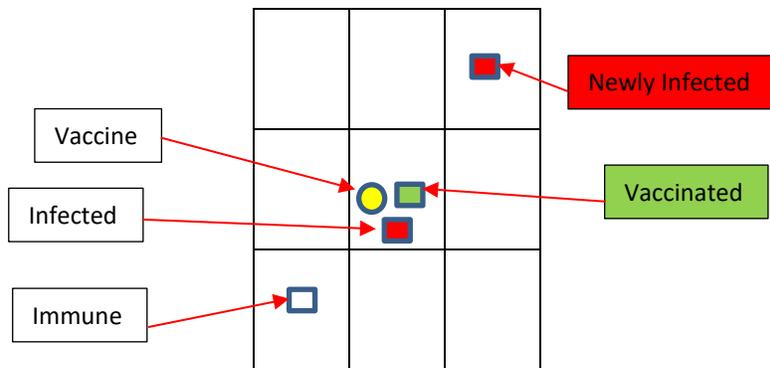

Figure 3.10 Effect of Simple Vaccine on Cells
- f. Vaccines have no effect on “infected” or “immune” cells. Infected cells in the vaccinated grid space(s) will still infect cells in adjoining grid spaces. See the example in Figure 3.10.